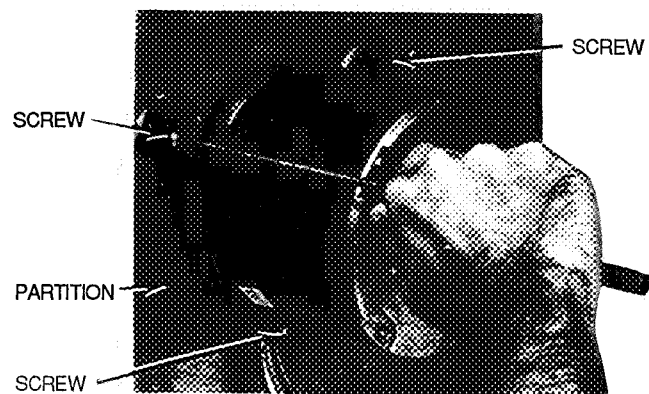

Fig. 24 – Removing Fan Motor
Fan Motor Removal (See Fig. 24)
6. Remove 3 screws securing motor to partition. See Fig. 24.